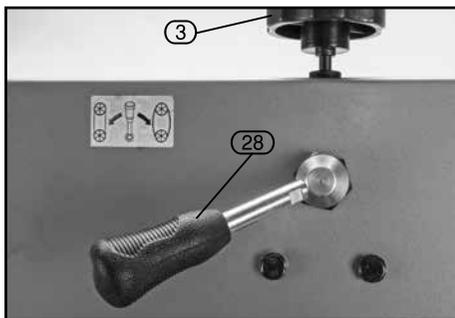

FIG. 13
9.6 TENSIONING THE BLADE – FIGS. 13 – 14